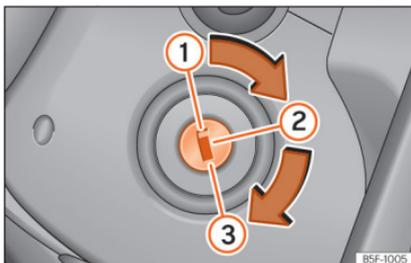

Fig. 251 Ignition key positions.
If the engine does not immediately start up, interrupt the starting process and try again after 30 seconds. To start the engine again, return the key to position **Fig. 251** .
- Turn the ignition key to position  **»» Fig. 251 .**
- Remove the key from the ignition in position **»» Fig. 251 .**